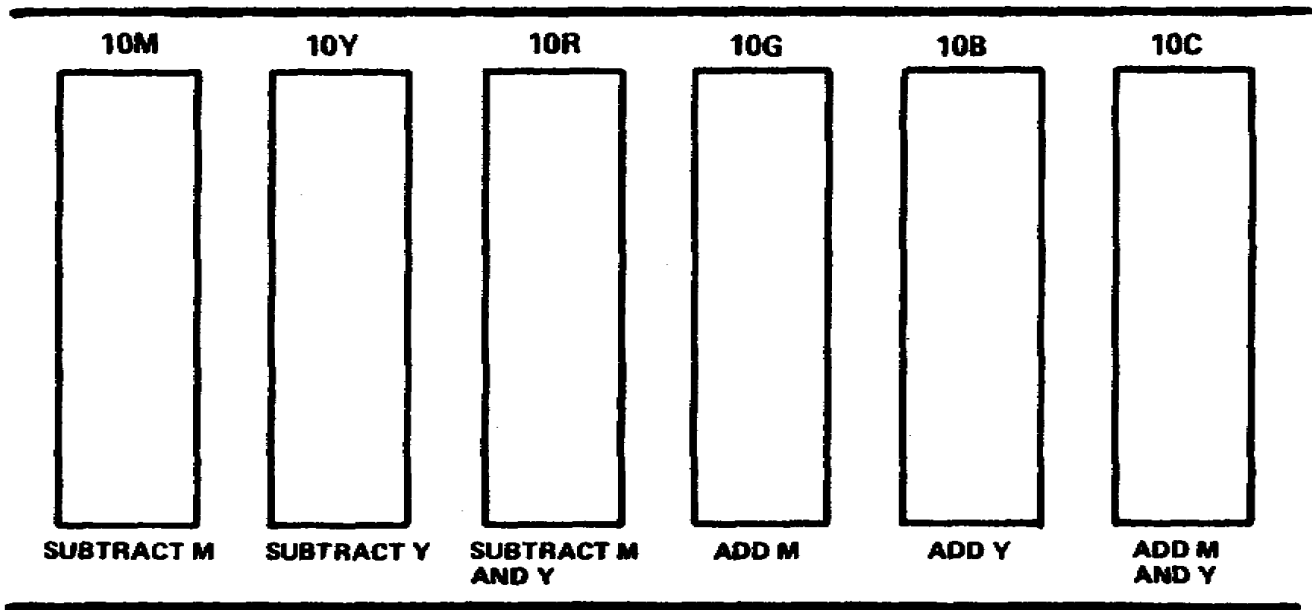

Figure 3-1. Typical color print viewer
(1) After print is made, you view the print through a series of filters (fig 3-1). These filters alter the color of the print. The print should be viewed under daylight fluorescent lighting. Warm, soft, fluorescents or regular tungsten household lamps will give a wrong color balance.